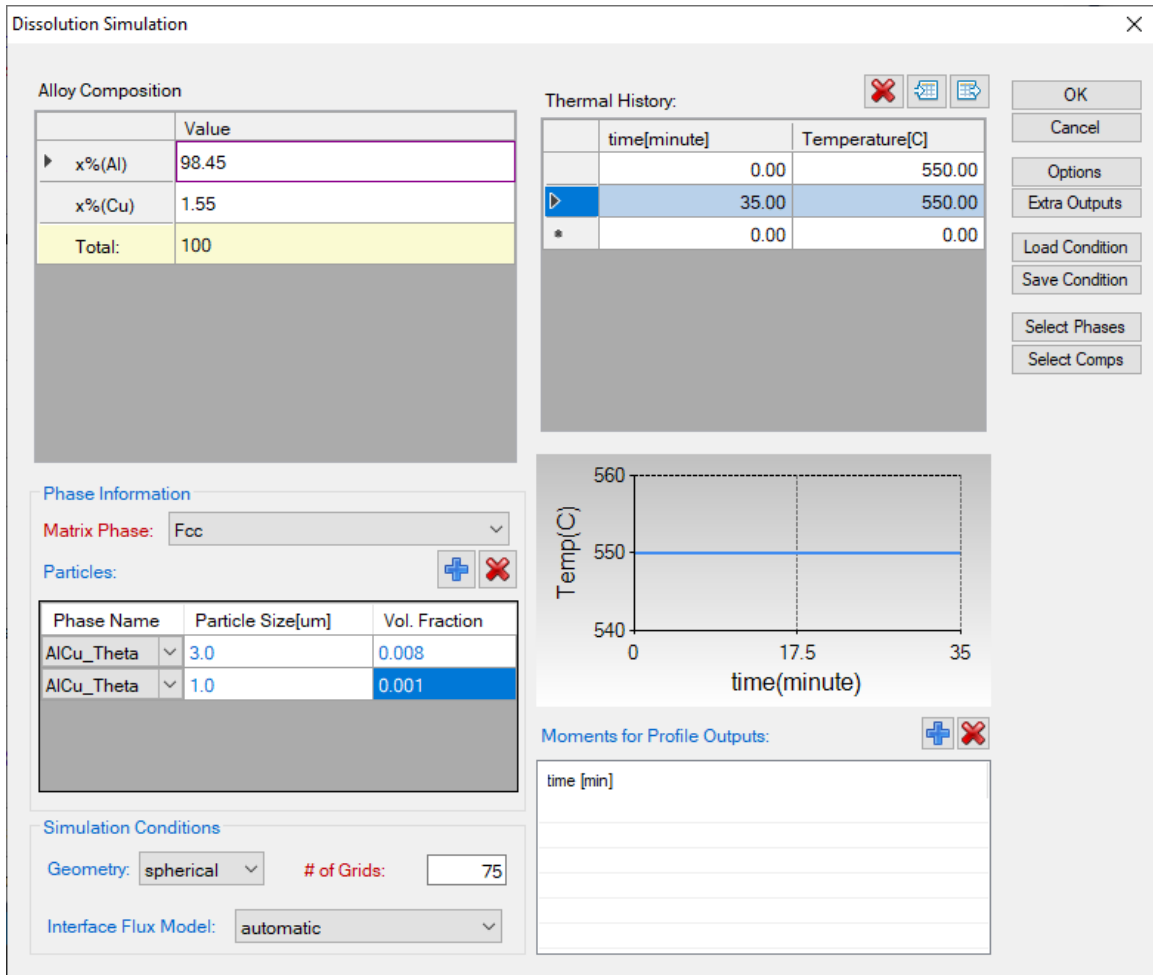

Figure 4.13.1: Settings applied in this example.
- Click on “PanDiffusion->Dissolution Simulation” or click the icon  to open a setting dialog (as shown in Figure 4.13.1).